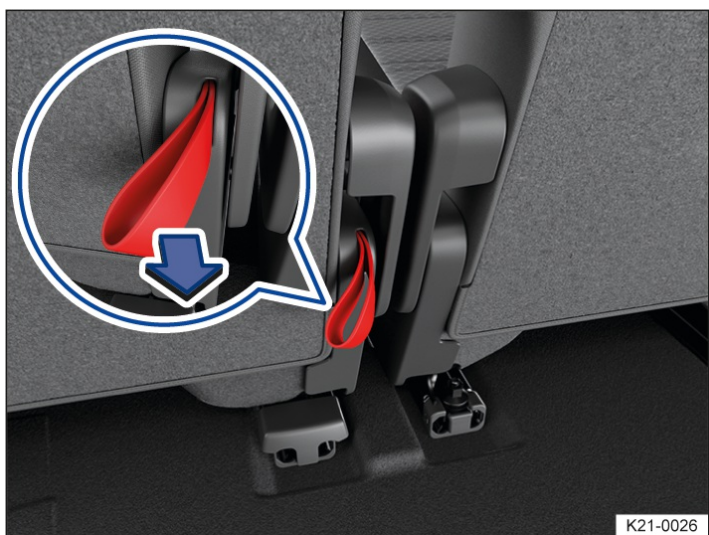

Fig. 2 Second row seats: loop for third row seat emergency exit function.
If the lever → *fig. 2* is not working, for example after a collision, the seats in the second row can be folded forward by someone in the third row to make it easier to exit the third row → ⚠.
1. Pull the loop → *fig. 2* back and fold the rear seat backrest forward.